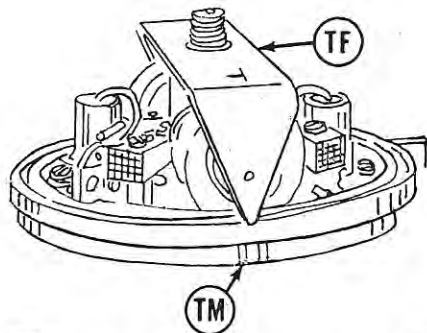

Fig. G24—Timing fixture (TF) installed and aligned with armature plate timing marks (TM) for adjusting points for upper cylinder. Refer to text.
Breaker point gap should be 0.020 and both sets of points should be synchronized so that they open exactly 180° apart. The manufacturer provides a timing fixture (OMC Part No. 376969). This fixture is to be installed on the crankshaft in place of the flywheel as shown in Fig. G24, and used in conjunction with a timing light of the type shown in Fig. G25.
when points are closed, and go out when points are open. Turn the crankshaft until fixture pointer rests midway between the two embossed armature plate timing marks as shown in Fig. G24. Loosen the breaker point anchor screw (6—Fig. G26) and turn the adjusting screw (4) until points close and bulb lights up. Turn adjusting screw in opposite direction until points barely open; then tighten anchor screw (6). Turn crankshaft exactly 1/2-turn and adjust the other set of points in the same manner, using the opposite pointer on timing fixture. NOTE: Timing fixture legs are marked "T" and "B", to adjust breaker points for upper and lower cylinders, respectively.